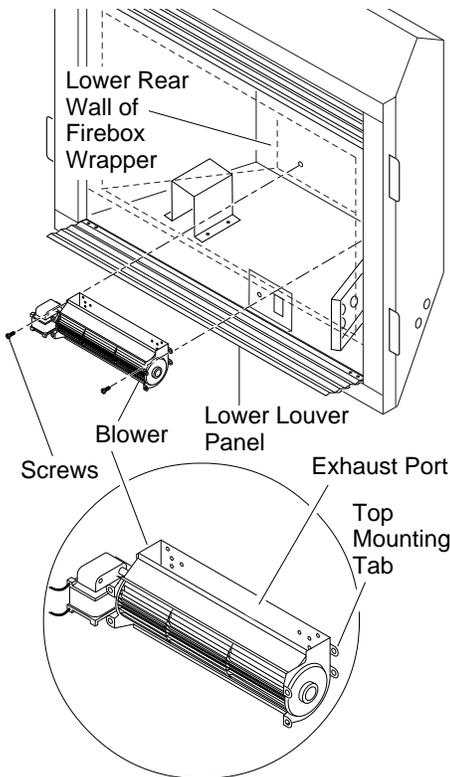

**Figure 29 - Attaching Thermal Switch to CDA3620T Thermostatically-Controlled Blower Accessory**
1. Remove the two hex head screws on the blower assembly as shown in Figure 29.